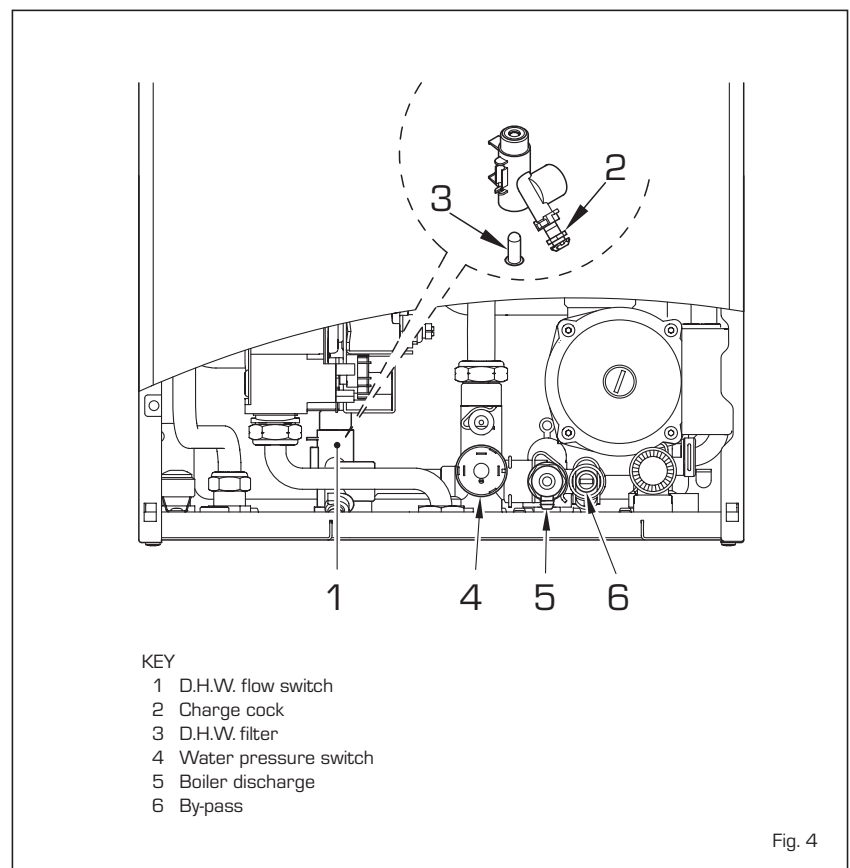

Fig. 4
2.6 SYSTEM FILLING (fig. 4)
2.6.1 Emptying the system (fig. 4)